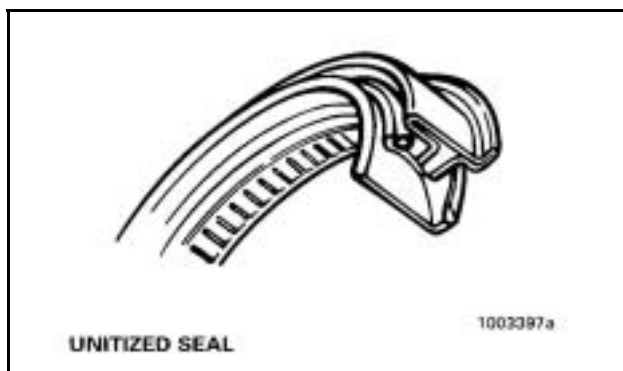

Figure 80
1. Remove the replacement unitized seal from the package. **Figure 80**.